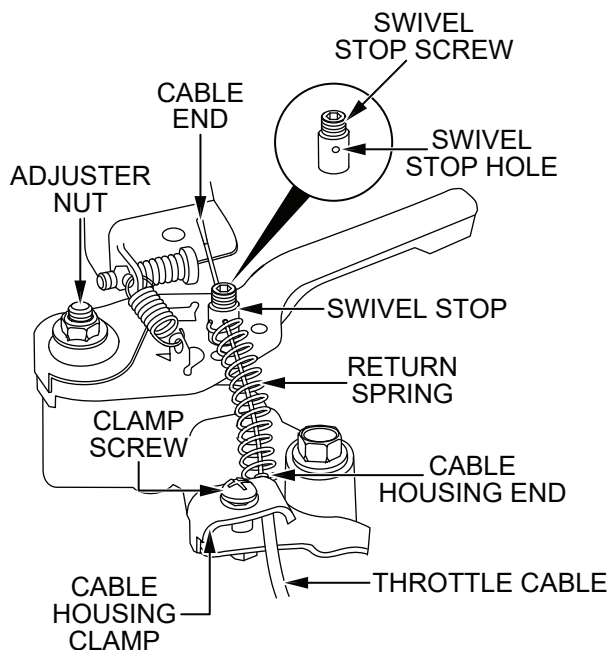

Figure 8. Throttle Cable Installation
4. Loosen the cable housing clamp screw and the swivel stop screw (Figure 8).
5. Place the primary throttle return spring between the cable housing clamp and the swivel stop screw (Figure 8).
6. Feed the cable assembly through the cable housing clamp, return spring, and swivel stop hole, until the cable housing extends under the housing clamp to its far edge (Figure 8).